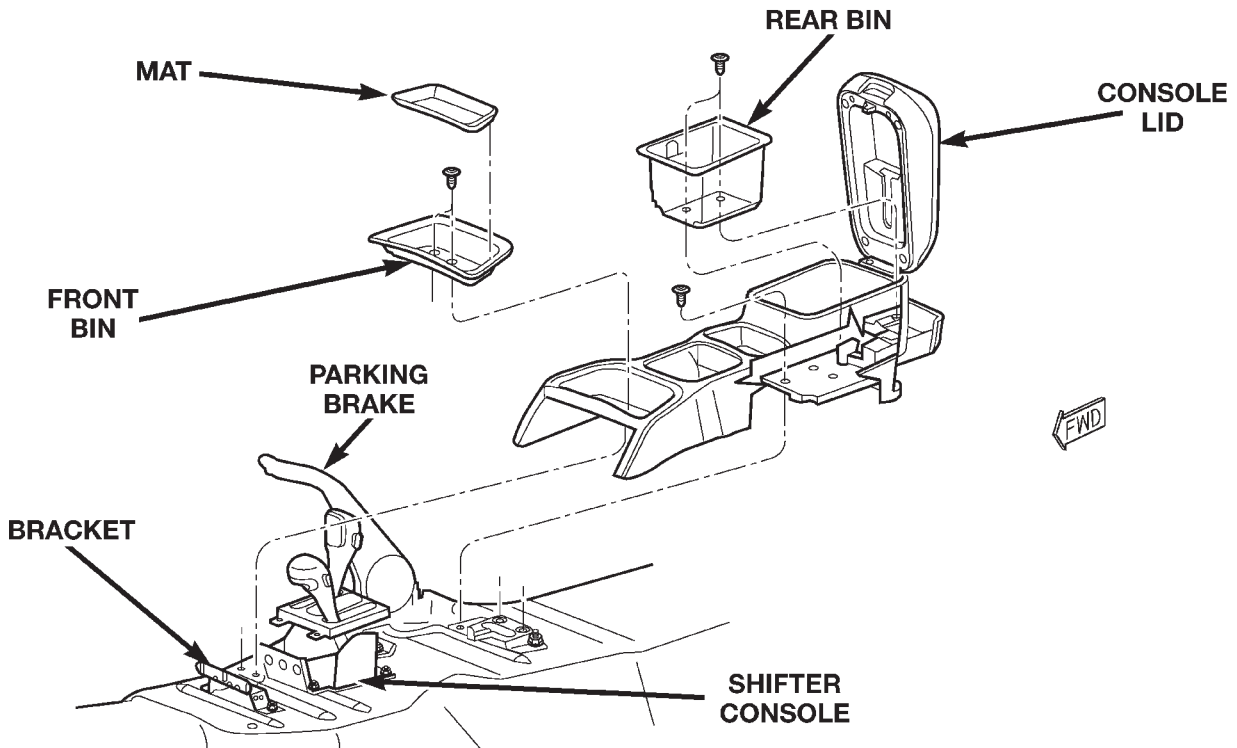

Fig. 62 Floor Console
- (1) Set park brake.
- (2) Place transmission shift lever and transfer case lever in full rearward position.
- (3) Remove mat from front bin and remove screws attaching front of console to floor (Fig. 62).
- (4) Remove screws attaching rear bin to console.
- (5) Remove rear bin.
- (6) Pull rear passenger cupholder outward to access screws.
- (7) Remove screws attaching rear of console to floor.
- (8) Lift the console upward and rearward.
- (9) Remove console from vehicle.